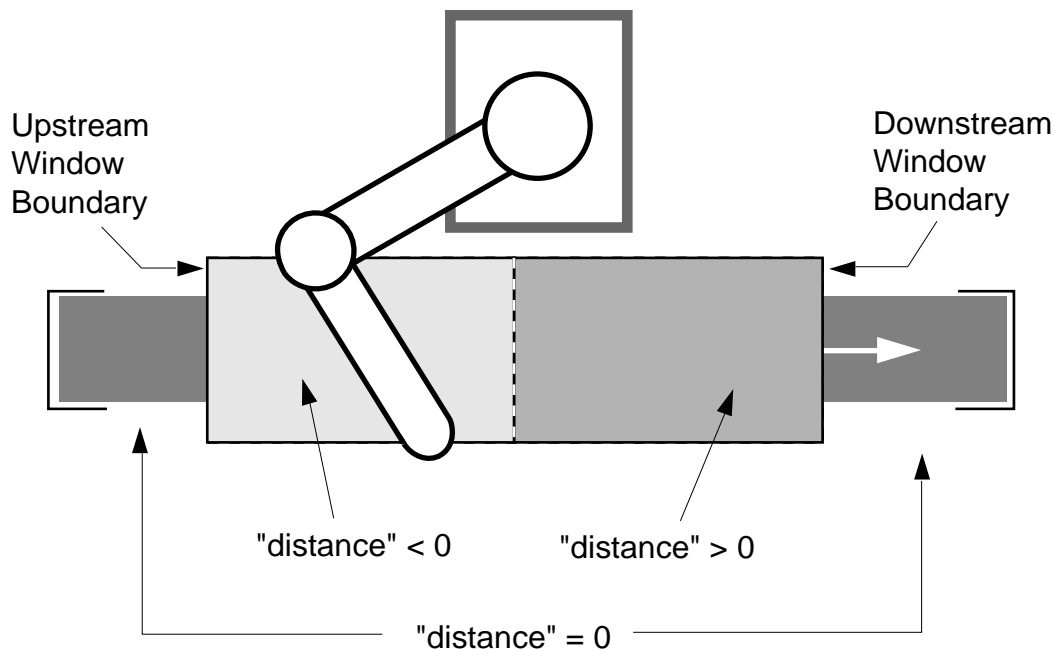

Figure 2-6. WINDOW Function for Mode Less Than or Equal to Zero
1. If the value of the mode expression is **less than or equal to zero** (the default), the value returned is interpreted as follows (see Figure 2-6):